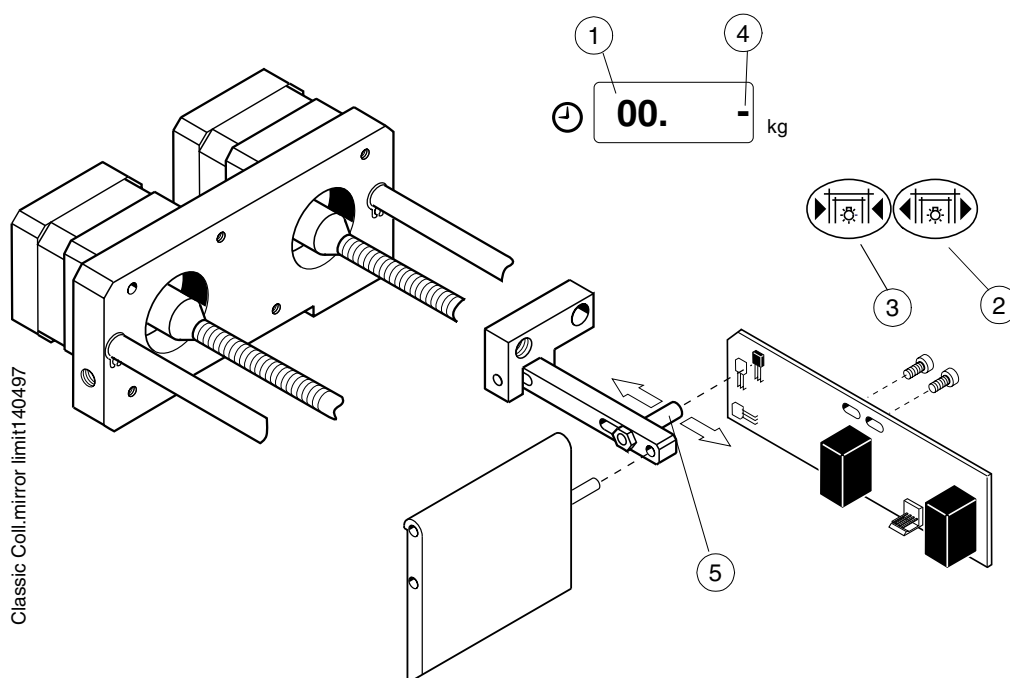

Figure F.20
- Enter the service mode and select the display of internal signals mode 00 (Fig. F.20, 1).
- Press the right field/light key (Fig. F.20, 2). The mirror rotates away from the radiation window and stops automatically to its limit. The indicator LED on the COLLIMATOR PCB lights as well as the right middle signal on the display (Fig. F.20, 4) if the mirror magnet reaches the hall-sensor.
- Press and hold down the left field/light key (Fig. F.20, 3). The mirror rotates to its initial position. Release the key when the position is reached.
The mirror may not hit the collimator frame, adjust the mirror magnet holder (Fig. F.20, 5) if needed. The final adjustment of the mirror position is performed according to instructions described in chapter F, section 4.4.